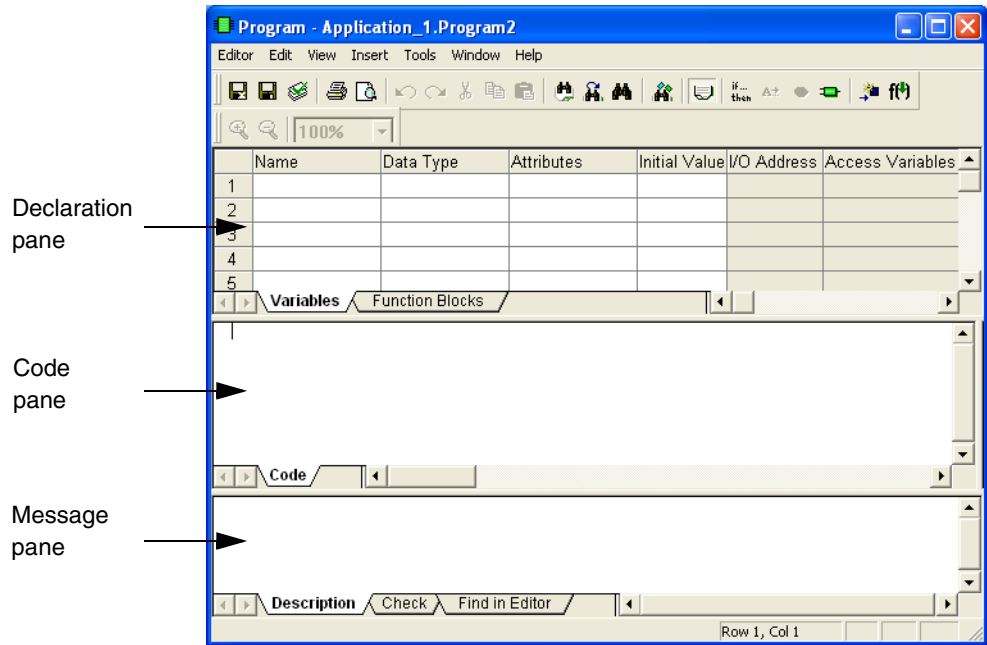

Figure 19. The editor for program *Program2*.
2. The program editor is divided into three panes: the declaration pane, the code pane, and the message pane. (See Figure 19.)